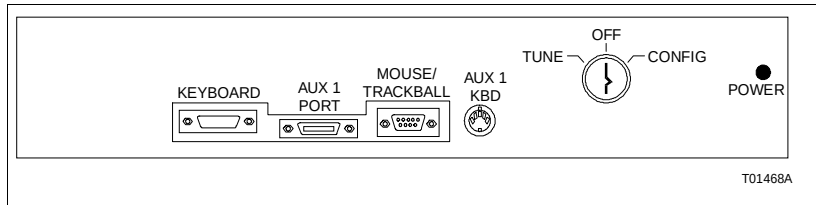
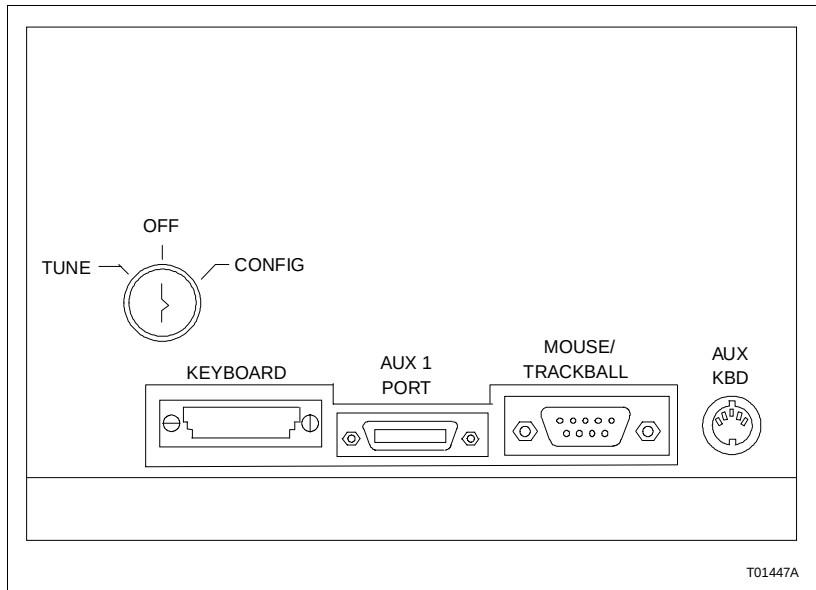
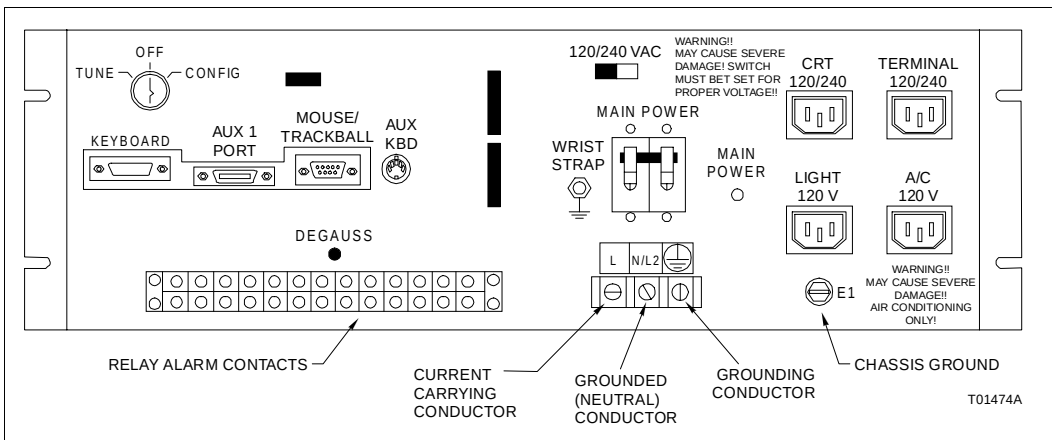

Figure PR9-1. Table Top Model Keyboard Interface Assembly
Figure PR9-2. Console and Panel Mount Model Keyboard Interface Assembly
Figure PR9-3. Environmental Model Keyboard Interface Assembly
- ☐ 1. Plug the Mylar (operator) keyboard into the port marked KEYBOARD on the keyboard interface assembly. Figure PR9-1 shows the keyboard interface assembly for the table top model, Figure PR9-2 shows the keyboard interface assembly for the console and panel mount models, and Figure PR9-3 shows the keyboard interface assembly for the environmental model. The keyboard interface assembly for the environmental model is part of the PEP.